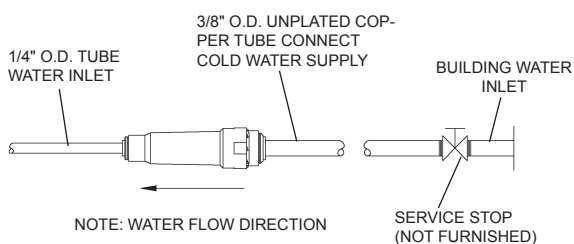

FIG. 18
5. Connect drain and water supply lines to the freeze resistant fountain. Refer to Figures 1, 3, 5, 7, 9, or 11 for component positions. In-line strainer must be used on the inlet water line. See Figure 18.